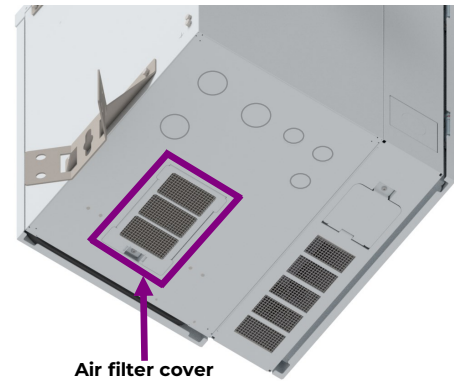

Figure 20 Air filter
- Remove the screw and open the cover to get the access of air filter. As shown in figure 20.